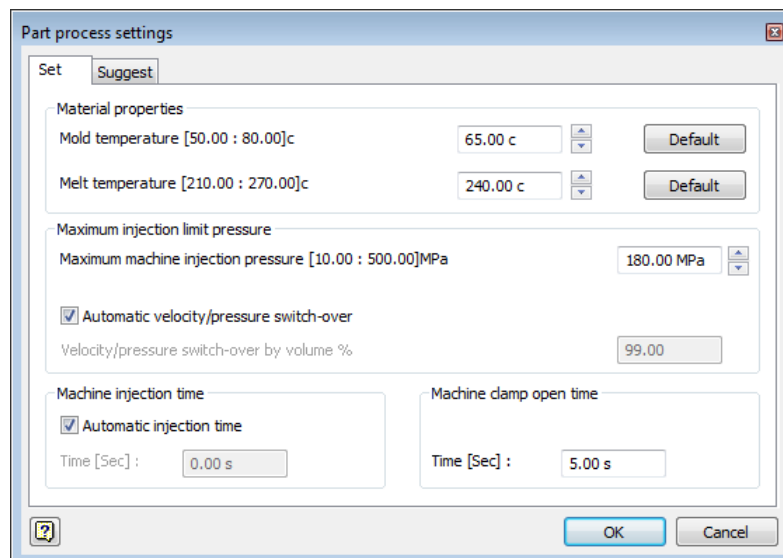

*Figure 19-67 Total points specified for gate location*
4. Similarly, specify two more points on the part, as shown in Figure 19-67 and then choose the **Done** button from the dialog box.